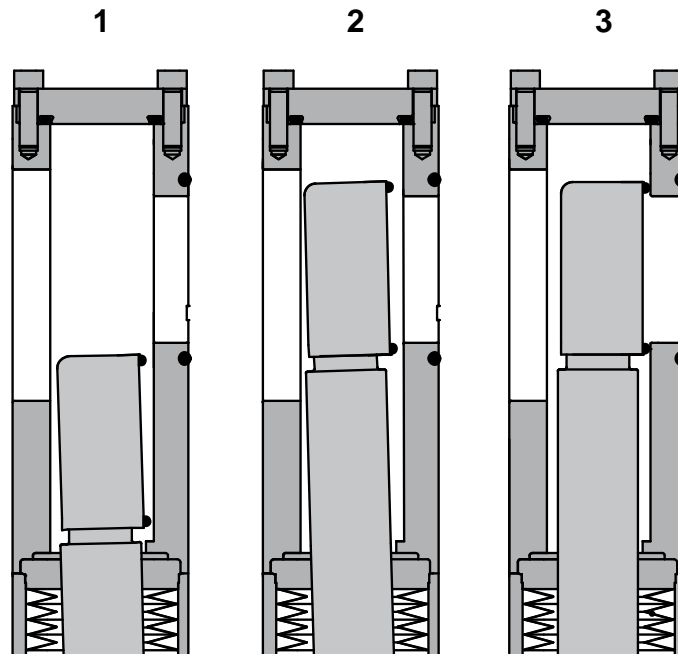
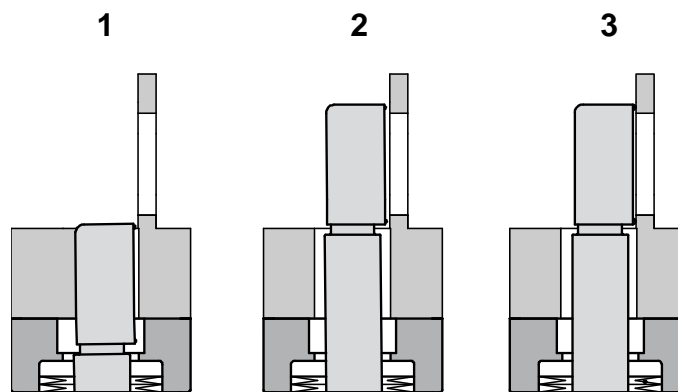

Figure 3-2
Figure 3-3
The main actuator performs an L-movement triggered by a pneumatically sequence control. The valve starts in open position (1); see «Figure 3-2» and «Figure 3-3». The single shaft actuator moves the gate upwards until position (2) is reached. The gate is moved towards sealing surface through pneumatic piston. Movement ends in closed position (3).